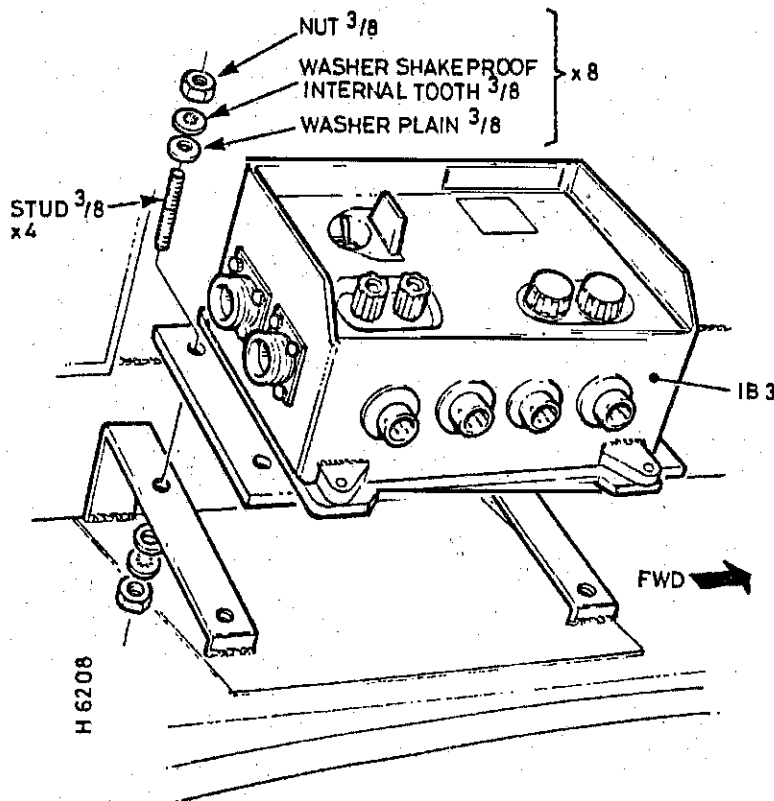

Fig 1 IB3 mounting
13 Fit the IB2 (14) or IB3 (15) to the upper l.h.s. panel of the turret, as shown in Fig 1. Locate the four IB2/IB3 fixing holes. Fit the UNC end of stud (21) in each of the tapped holes and secure tightly. Fit the IB2/IB3 over the studs and secure using eight off 3/8 UNF nuts, 3/8 shakeproof washers and 3/8 plain washers. (Operation 1).